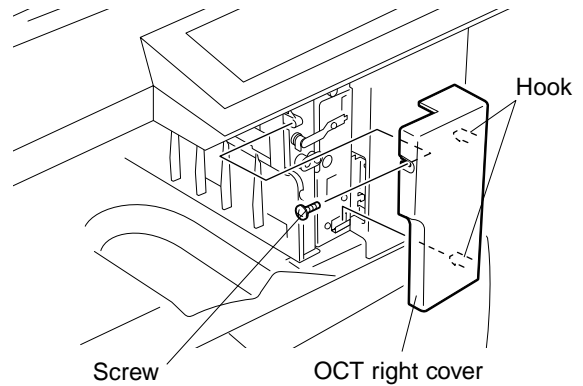

Fig. 6-2
2. Detach OCT right cover. (See Fig. 6-2)